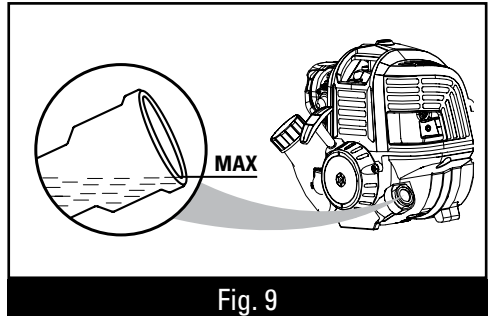

Fig. 9
5. If level is low, add engine lubricant until the fluid level rises to the top of oil fill hole (the top of screw thread) and does not overflow, Fig.9.